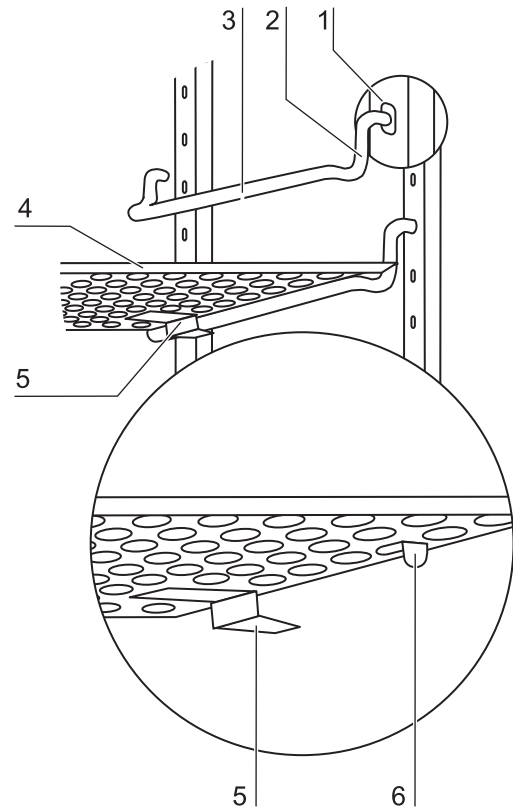

Fig. 18: Shelf support installation
1. **Fig. 18:** Insert the shelf supports [3] into the perforations [1] of the support rail with the bar facing down.